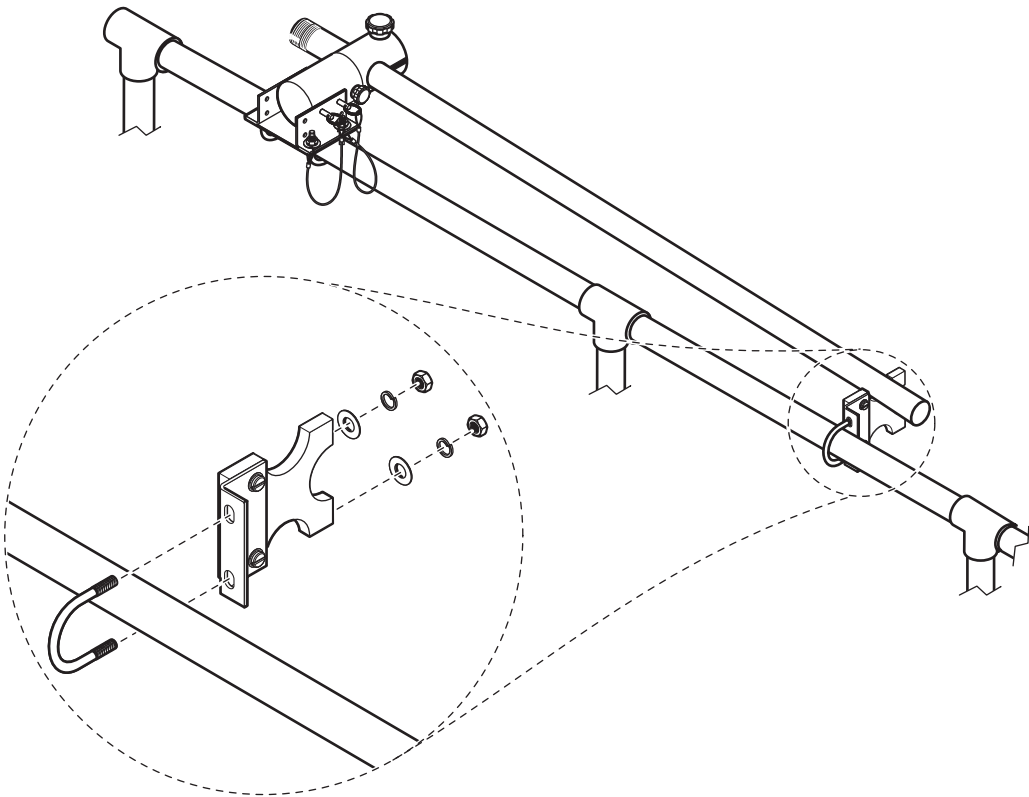

Figure 6 Installing the immersed pipe support
4. Install the immersed pipe support (Figure 6 on page 4) and place the immersed pipe on the immersed pipe support.